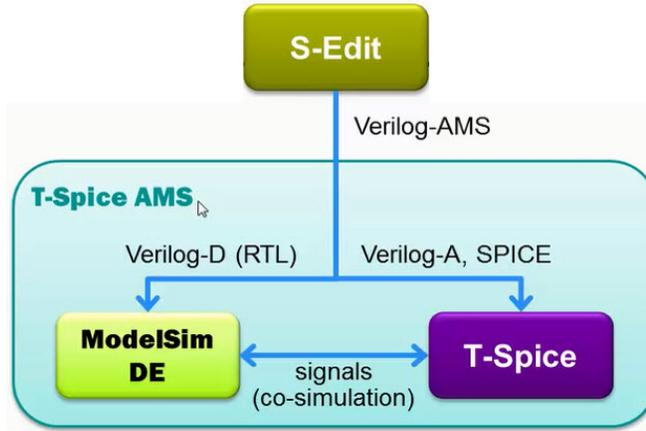

Figure 5: Analog and digital partitions for simulation.
- Simulating the mixed-signal design. S-Edit creates the Verilog-AMS netlist and passes it to T-Spice. T-Spice splits the netlist automatically to partition the design for analog simulation and for digital simulation in ModelSim, as Figure 5 shows.